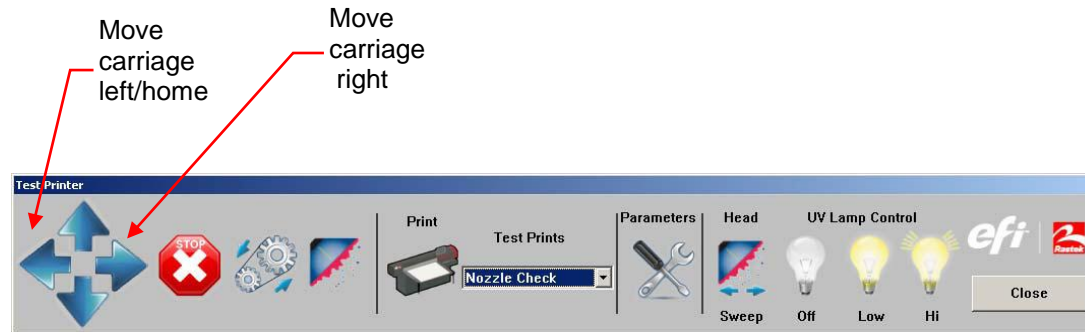

Figure 1: Test Printer Toolbar
4. Sweep the heads using the sweep icon on the **Test Printer Toolbar** shown in **Figure 1**.
A. Open the **Test Printer Toolbar** in the GUI. See **Figure 1**.